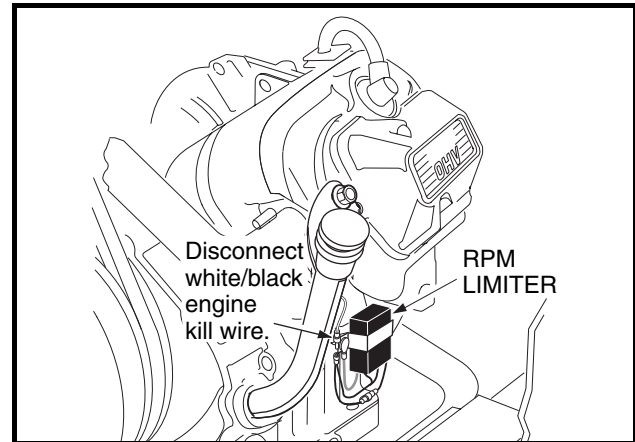

Figure 11-24 Disconnect White/Black Engine Kill Wire
2. Disconnect the engine-kill white/black wire at the bullet connector located next to the RPM limiter (Figure 11-24, Page 11-24).
3. Disconnect white/black wire bullet connector located at the engine RPM limiter (Figure 11-24, Page 11-24).